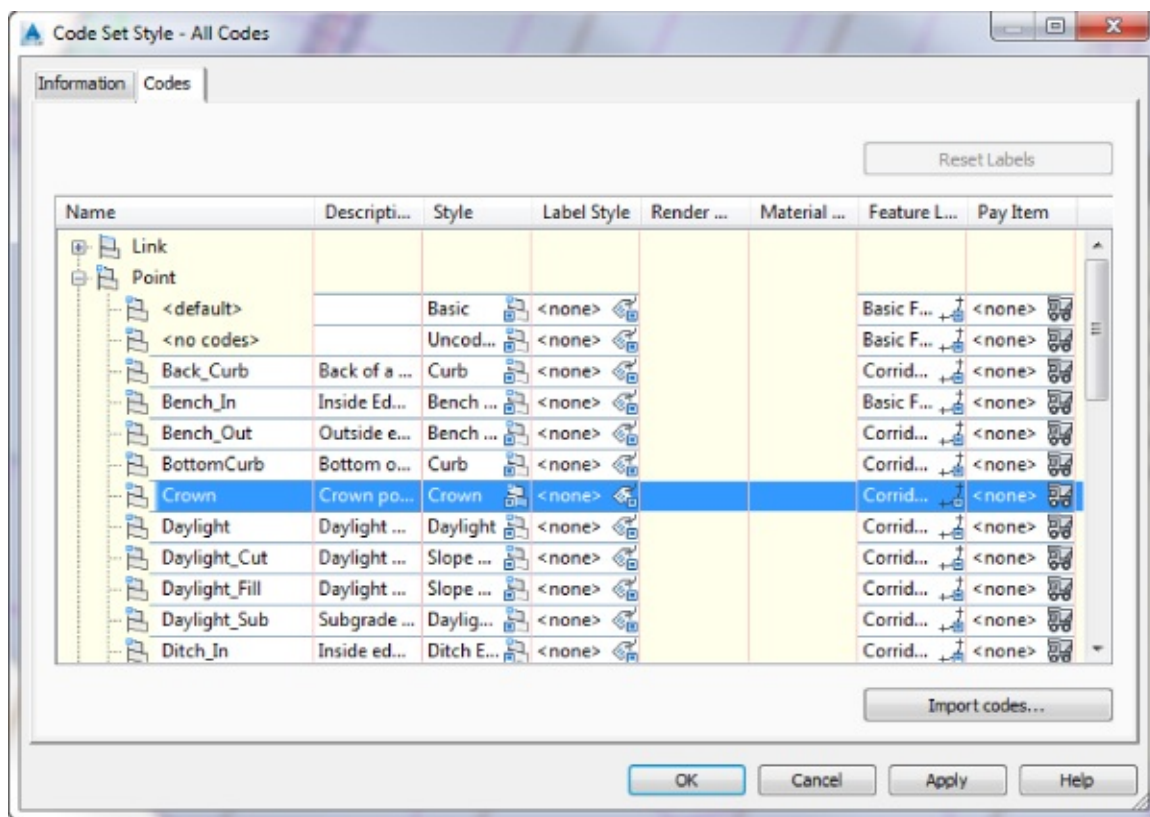

Figure 17.11 Select the Crown row in the Point branch in the Code Set Style - All Codes dialog.
10. On the Codes tab, expand the Point branch and find the row for Crown, as shown in Figure 17.11.
1. Click the truck icon in the Pay Item column, shown in Figure 17.11, to open the Pay Item List dialog.